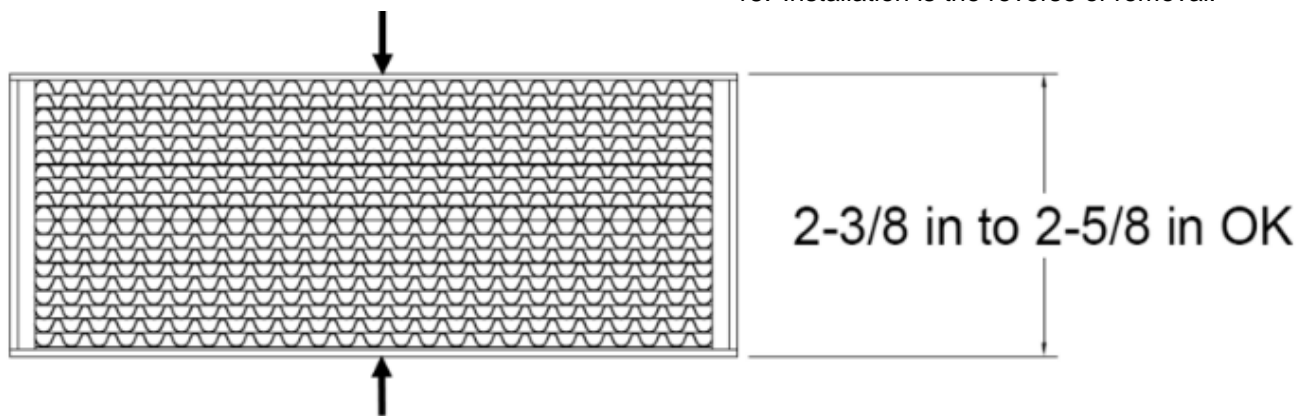

Figure 21 - Acceptable Catalyst Distortion
9. Some warping or bowing of the catalysts over time is acceptable, as long as the catalyst gasket continues to seal. Measure the catalyst in the middle section – if the dimensions are outside the range shown in Figure 21 above, replace the catalyst.